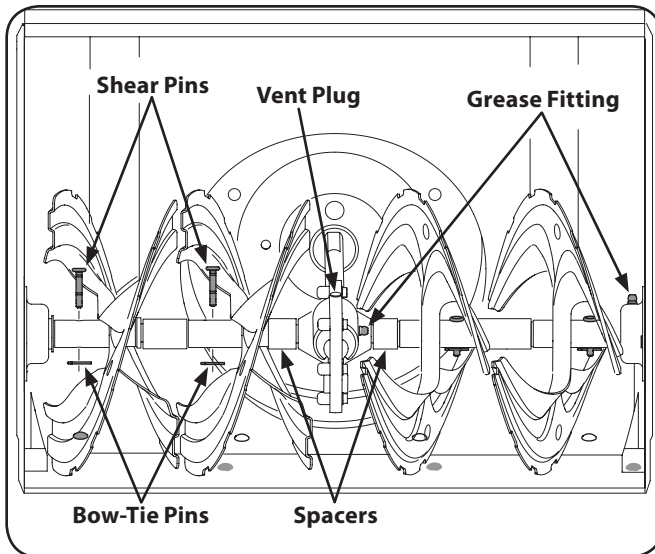

Figure 6-3
At least once a season, remove the shear pins on auger shaft. Spray lubricant inside shaft, around the spacers. Also lubricate the flange bearings found at either end of the shaft. See Figure 6-3.
- The augers are secured to the spiral shaft with shear pins and cotter pins. If the auger should strike a foreign object or ice jam, the snowthrower is designed so that the pins may shear. See Figure 6-3.